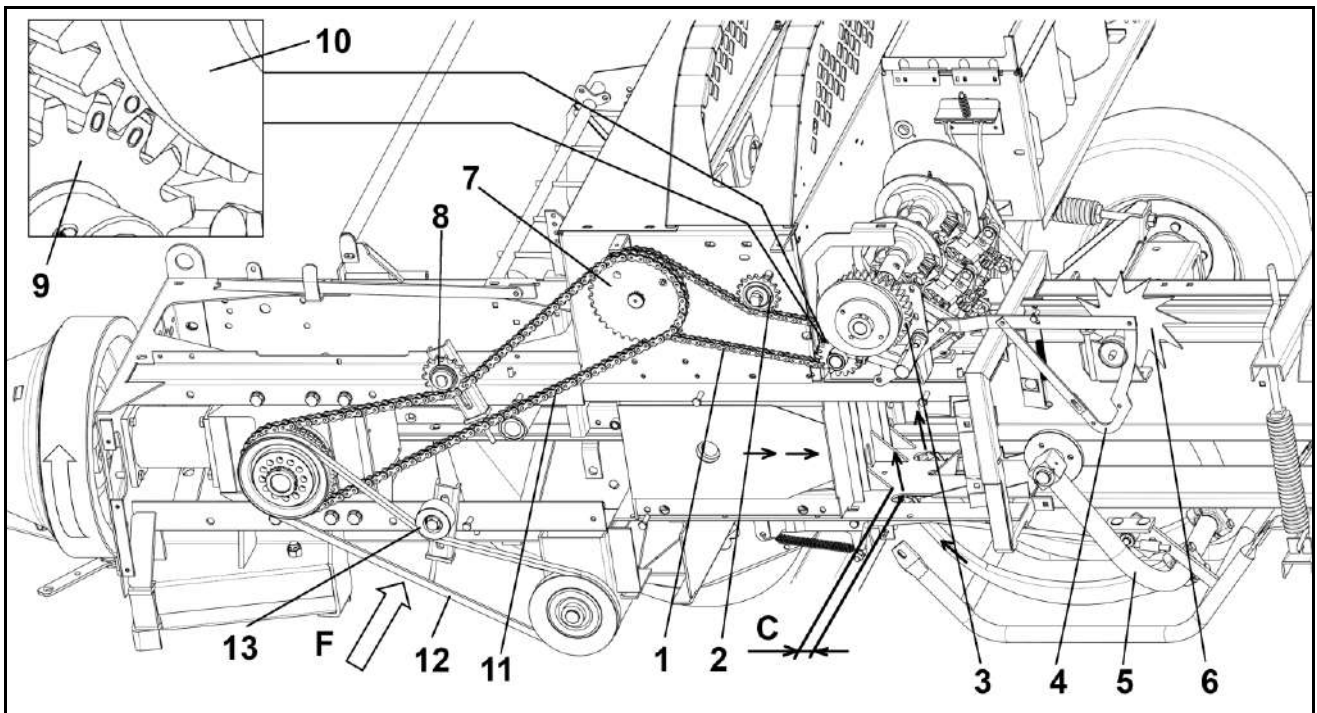

Fig. 7.7
- 1) Make the gear 7 idle by removing the chain 1 (Fig. 7.7).
- 2) Put the needles in the rest position by bringing the needle holder arm 5 (Fig. 7.7) back to the end of the stroke.
- 3) Engage the knotter by bringing the sector lever 4 (Fig. 7.7) to its maximum height by rotating the bale star wheel spacer 6 (Fig. 7.7).
Then manually rotate the bell gear 3 (Fig. 7.7) counterclockwise, until it locks in the dragging position of the knotter shaft.
- 4) Continue to rotate the bell gear 3 (Fig. 7.7) counterclockwise, moving it repeatedly with a series of "clicks," until the needle holder arm is lowered so that the needle tips are level with the lower edge of bale chamber (Fig. 7.7).
- 5) Then, turning the flywheel counterclockwise (Fig. 7.7), bring the carriage into the position so that the front spurs (ref. C, Fig. 7.7) are approximately 0 to 10 mm from the needle tips positioned previously.
- 6) With the needles and the carriage thus positioned, connect the chain 1 (Fig. 7.7) without moving the gears 7 and 3 from the position in which they are found; pull the chain tensioner 2 (Fig. 7.7) checking that there is no movement between the gears.
To eliminate going out of phase due to the slackening of the chains, always keep the main chains under tension using the tensioners (ref. 8-2, Fig. 7.7) and lubricating as specified. When it slackens, the chain becomes longer and could even fall off the gear teeth. In either case this situation could cause the machine to be out of phase.
If it was necessary to disassemble the entire knotter, before doing the timing it is advisable to assemble the knotter, respecting the positions between gears 9 and 10 as shown in Fig. 7.7 (the O marked on gear 10 must be placed between the two O's marked on gear 9).
The belt (ref. 12 Fig. 7.7) that transmits power to the pickup must be correctly tensioned; the tension can be increased or decreased by means of the tensioner (ref. 13 Fig. 7.7).
The correct tension is checked as follows: applying a force F of 60 N (Fig. 7.7 - applied at the middle of the free side directed perpendicular to the belt itself), the belt must have a maximum deflection of 9 mm.
chain 11 (Fig. 7.7) must flex max. 1.5 mm;
chain 1 (Fig. 7.7) must flex max. 1 mm;